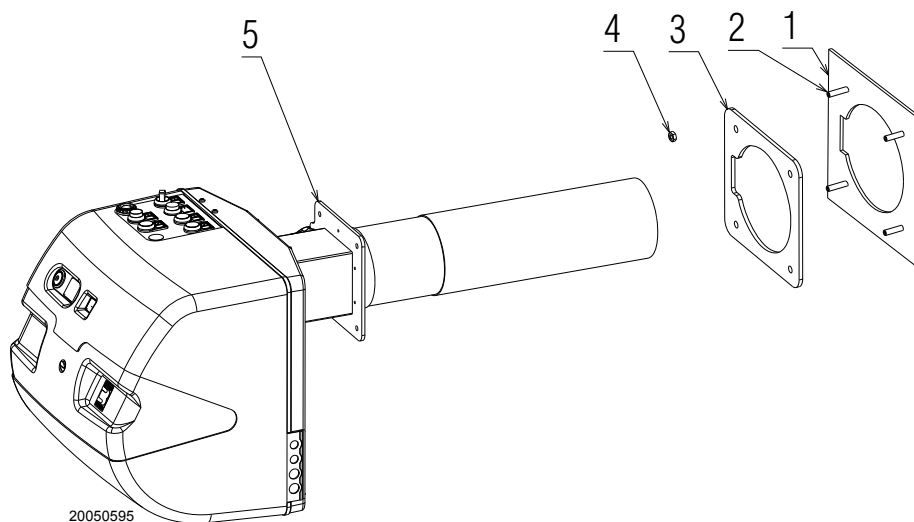

Fig. 18
- tighten the studs 2)(Fig. 18) on the plate 1) and position the refractory gasket 3).